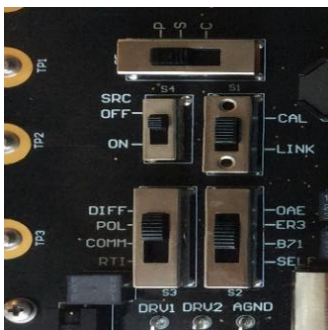

Figure 35
3. Set S1 to CAL, S2 to ER3A, S3 to DIFF, S4 to OFF and S5 to P for an ER-3A-ABR insert earphone (Figure 35). For all other insert earphones set S2 to OAE (Figure 36)